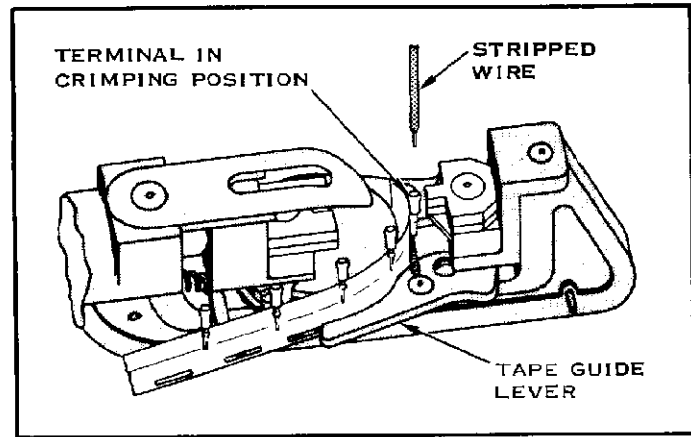

FIGURE 5
6. Press and release the Trigger, until the first Taper Pin moves into crimping position. Figure 5.